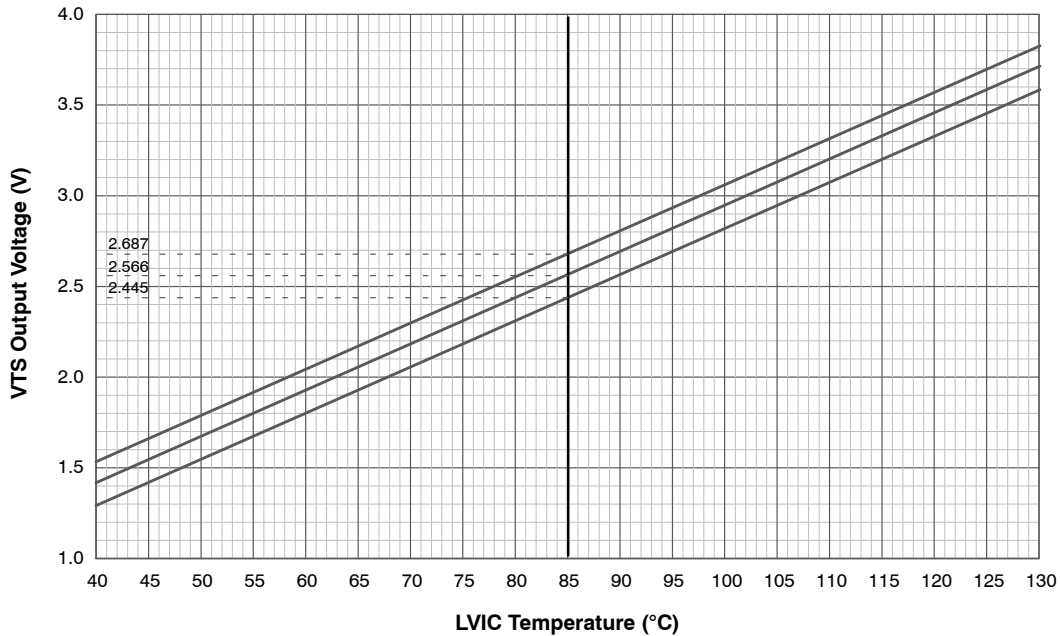
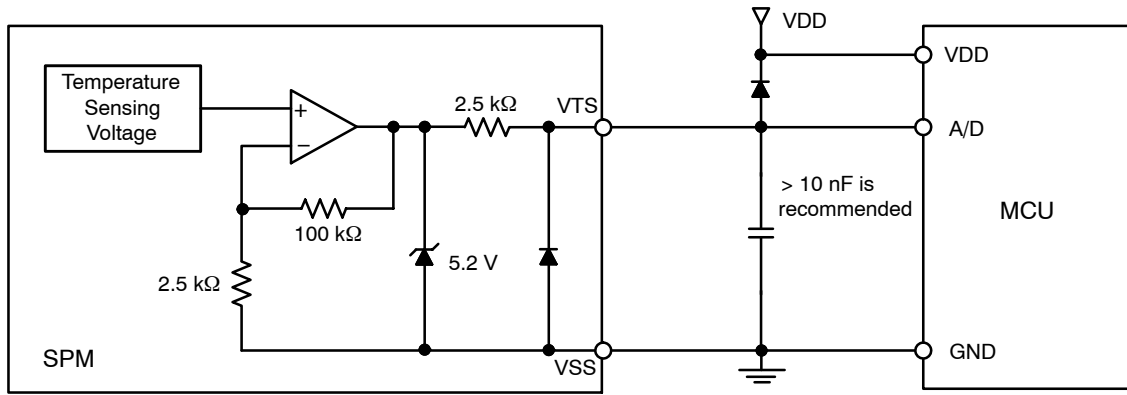

Figure 6. Temperature Profile of VTS
Figure 7. Internal Block Diagram and Interface Circuit of VTS
- TLVIC is the temperature of LVIC itself. VTS is only for sensing temperature of LVIC and cannot shutdown IGBTs automatically. The relationship between VTS voltage output and LVIC temperature is described in Figure 6. It is recommended to add a ceramic capacitor of 10 nF or more between VTS and VSS (Signal Ground) to make the VTS more stable as described in Figure 7. Refer to the application note for this products about usage of VTS.